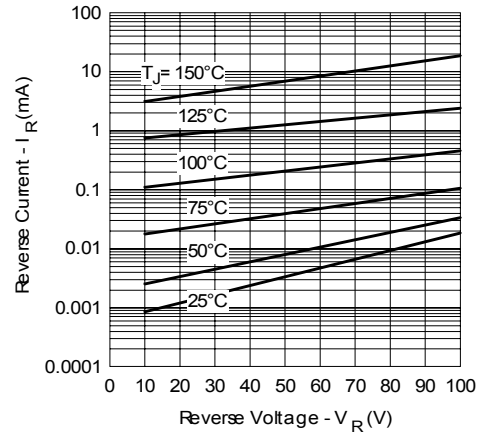

Fig. 2 - Typical Values Of Reverse Current Vs. Reverse Voltage (Per Leg)
| I _{RM} Max. Reverse Leakage Current (Per Leg) * See Fig. 2 (1) | 0.22 | mA | T _J = 25 °C |